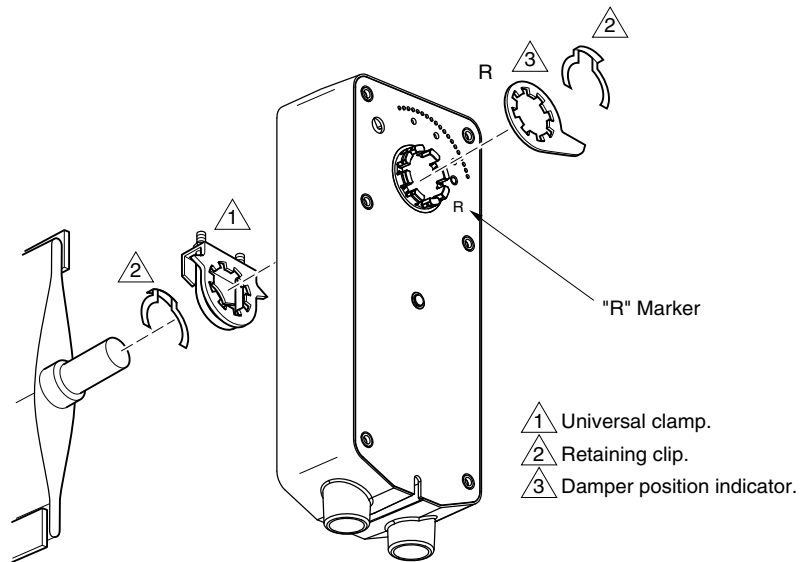

Figure-5 Installation of AM-686 Damper Position Indicator.
1. Place the position indicator on the actuator as shown in Figure-5 and secure in place, using the retaining clip provided.